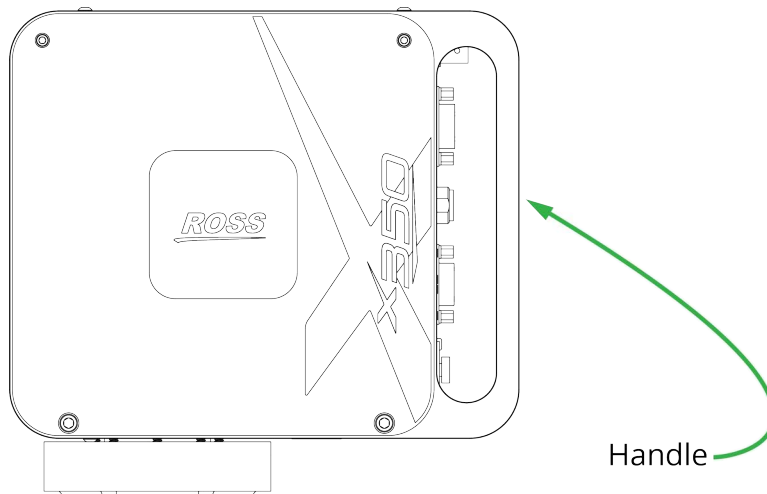

Figure 11 - Side View of an X350 Head, showing a Handle
- prevent strain on cable connections, by attaching cables to the head's handles (**Figure 11**). Minimize drag by tying cables to a fixed support close to the head, and by keeping the unsupported cable swag short.